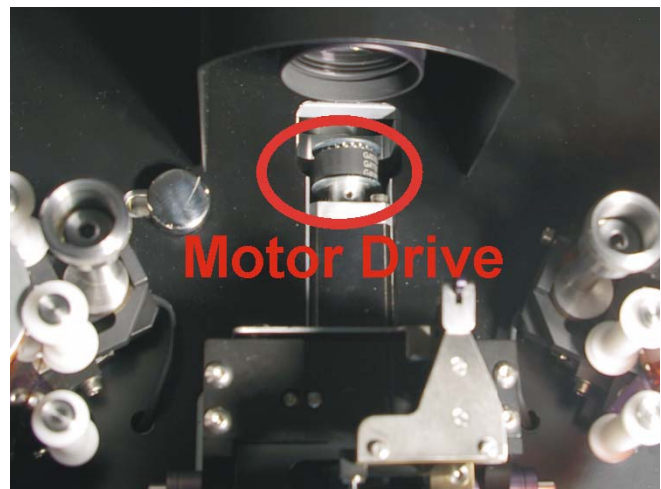

Fig 43 Location of Motor Drive
5. Have the frame bar positioned in the middle of the gate aperture. Make sure the fixed register pins are lined up with the film perforations. The shuttle pin should line up with the perforation just to the left of the framing bar. You may need a little physical adjustment by sliding the shuttle pins side to side until over the perforations by rotating the motor drive (Fig 43) until the plate and shuttle pins are at the correct point in the cycle.